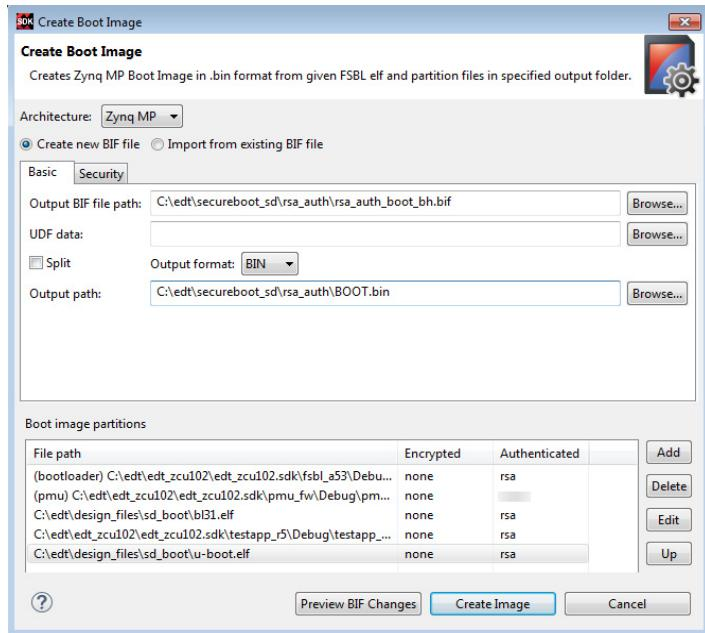

Figure 5-44: Boot Image Partitions - RSA Authentication
11. Verify that the Bootgen GUI has the content shown in Figure 5-44: